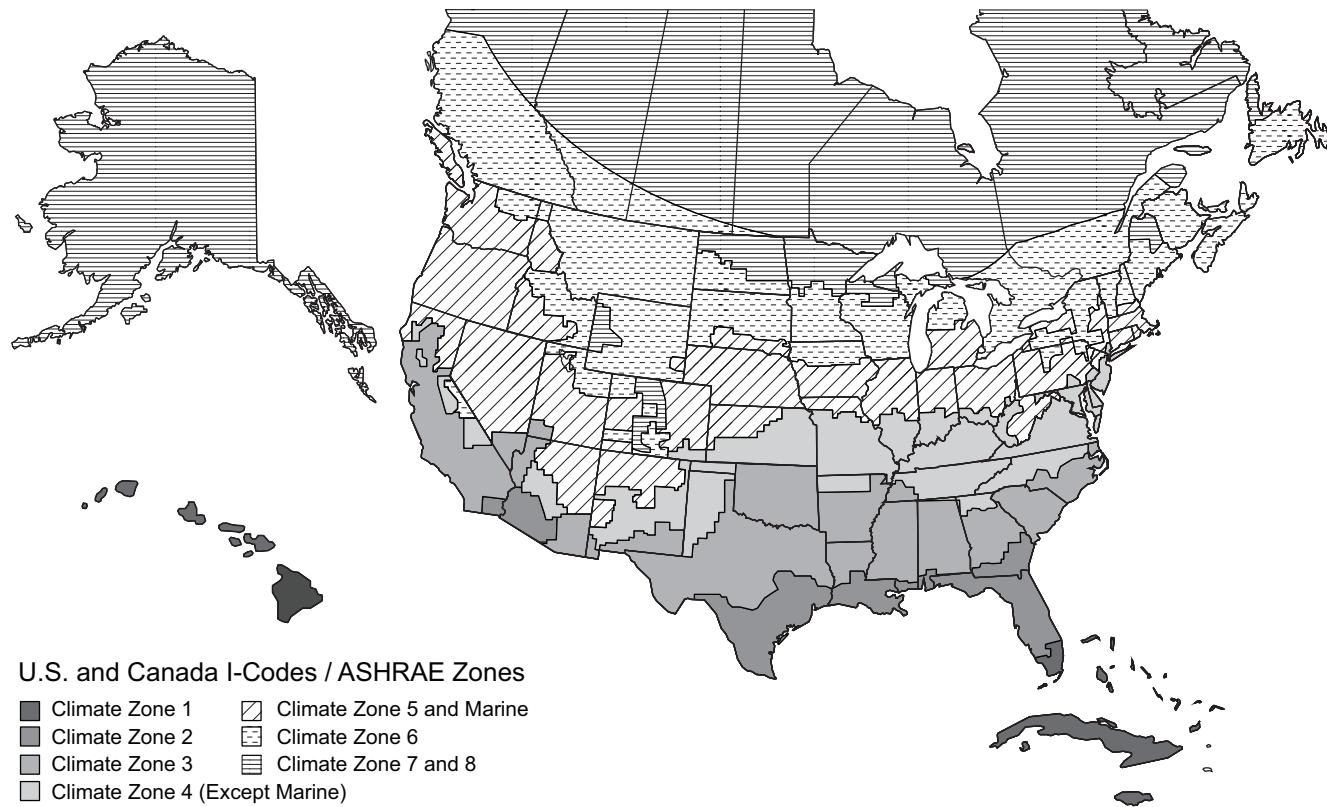

Fig. 62 — U.S. and Canada Climate Zones
- a. See Fig. 62 for map of U.S. and Canada climate zones.